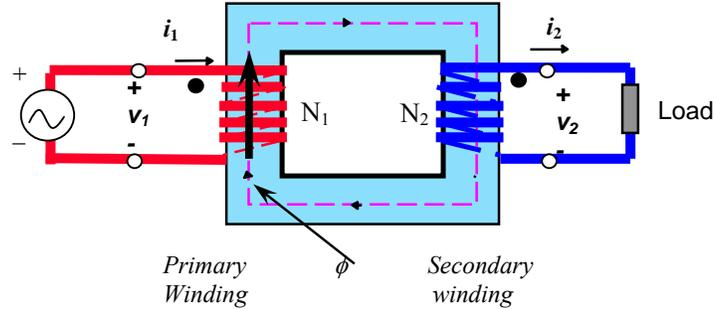

Figure 10: Ideal transformer connected to a load
If we now connect a load across the terminals of the secondary winding (figure 10), the circuit on the secondary side of the transformer is complete, and a current i_2 starts to flow through it.
- What changes will have to be made if we wanted to switch primary and secondary sides, i.e., apply the supply voltage on the right hand side in figure 10, while the load is connected on the left hand side?